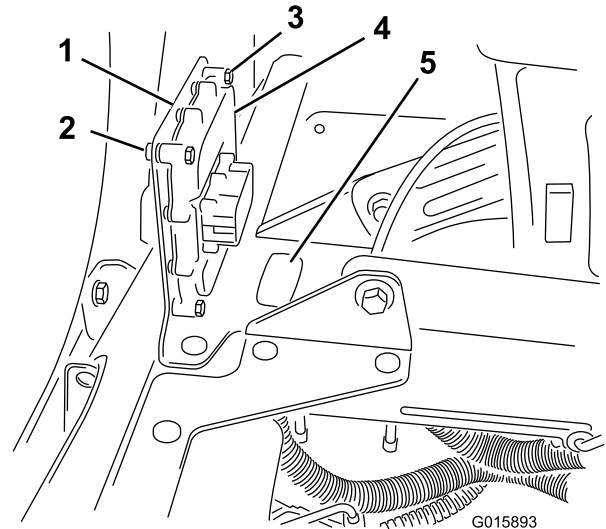

Figure 15
1. Remove the knockout plug (Figure 15).
3. Install the mounting bracket to the machine seat frame, between and behind the seats with existing hardware (Figure 15).